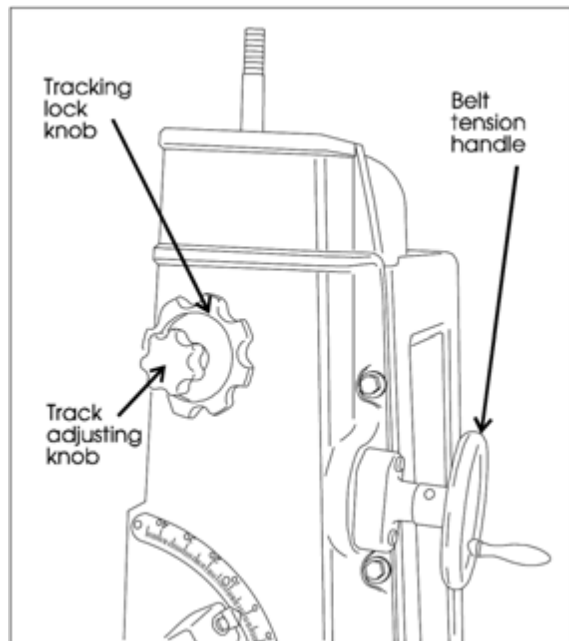

Figure 15: Belt adjustment components (Note top cover removed for removal and replacement of belt.)
4. Release the belt tension by turning the tension handle in a counterclockwise direction (See Figure 15). If the handle is difficult to turn, perform *Track Mechanism Maintenance* according to the instructions in section 9.2.